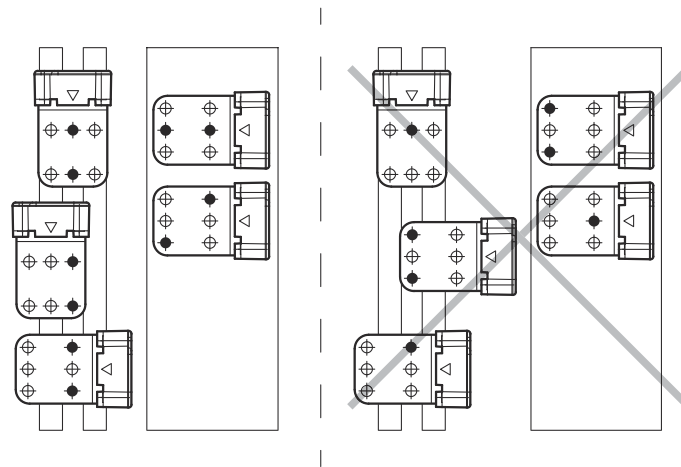

Figure 14: Correct and incorrect screw connection options for the mounting bracket
3. Install mounting bracket to the movable protective device with at least 2 M5 screws. Make sure that at least 1 screw uses a drill hole near the actuator (see figure 14).